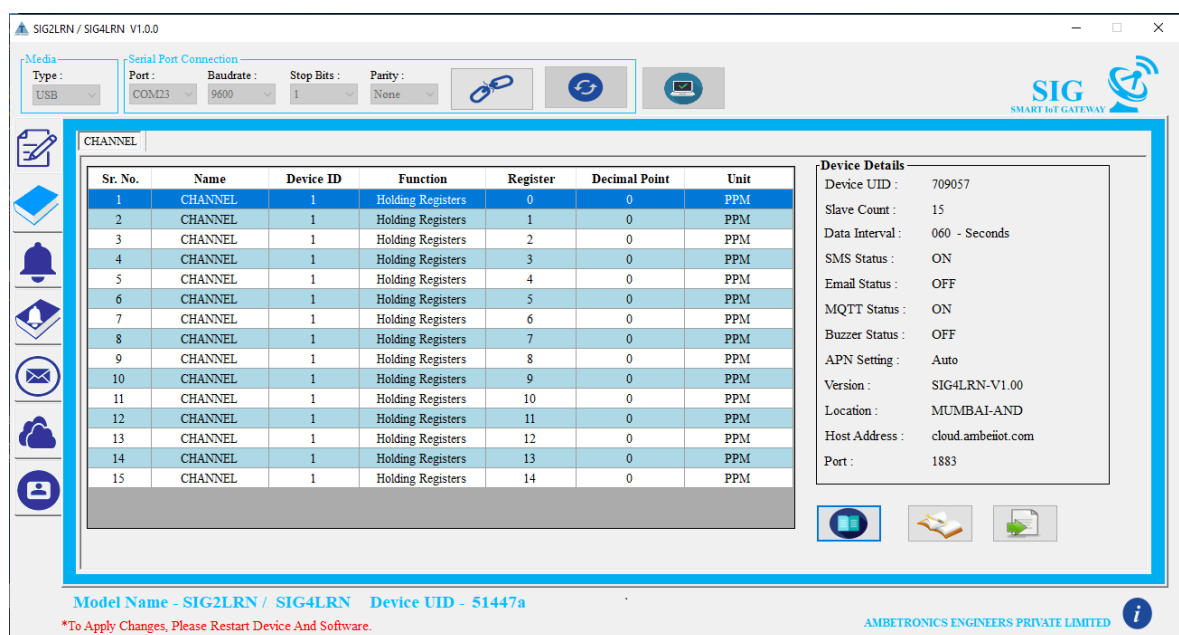

Figure 26
- This  button is used to read the existing settings from the device and display it on window. After clicking on  button following window will be open. Refer Figure 26